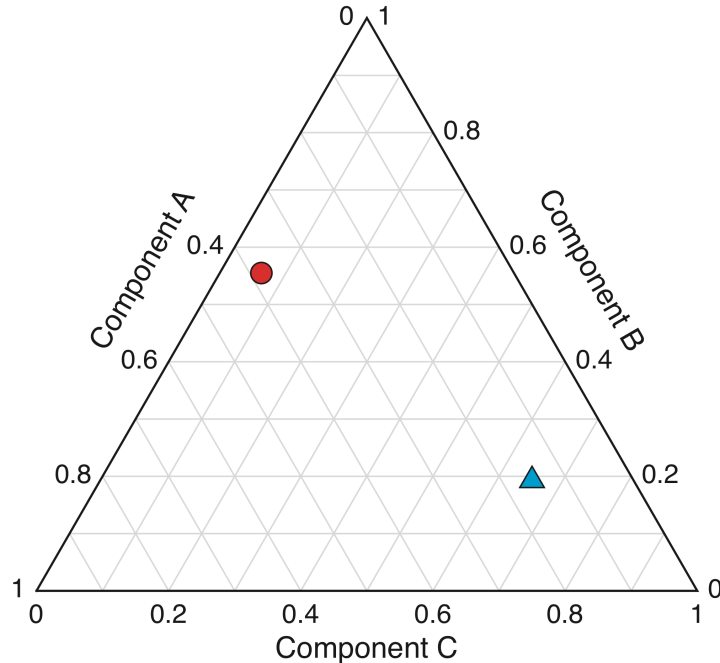

Figure 1
- Determine the unknown components based on the total density.* The measured densities of the two samples corresponding to the triangle and the circle are  $2.53 \text{ g/cm}^3$  and  $2.27 \text{ g/cm}^3$ , respectively. The three unknown components in Figure 1 are clay + kerogen, calcite and quartz. Using the component densities provided in Table 1, identify components A, B and C.